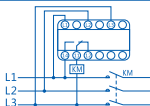
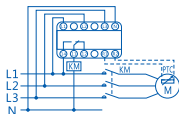

Figure 2 NJYB3-1~8 wiring diagram
Figure 7 NJYB3-13P~16P wiring diagram
3.2 Wiring diagram: see Figure 2~ Figure 7, panel diagram: see Figure 8.